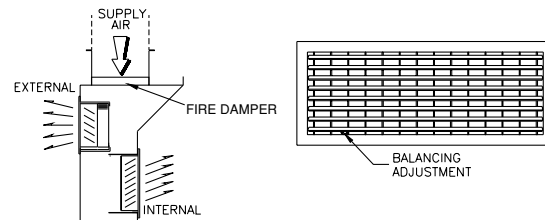

fig. 25
1. Grill Registers [Refer to fig. 25]
register. The airflow may be adjusted by turning the damper adjustment screwhead located just behind the louvers as shown in fig. 25.